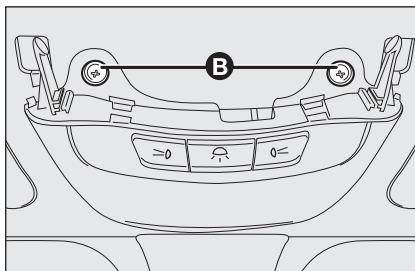

fig. 34
- ☐ loosen the two fastening screws **B**-fig. 34 to disassemble the unit;